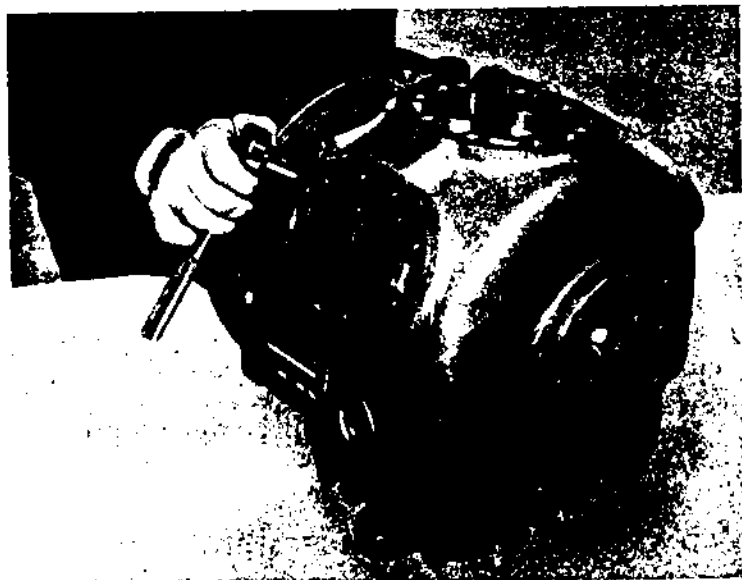

Figure 3-3. Valve Plate Removal
c. Free the valve plates from the cylinder deck by using the discharge valve capscrews, without washers, as jackscrews through the outermost tapped holes in the valve plate, after the valve stops and valves have been removed. (See figure 3-3.) Remove the valve plate gasket.